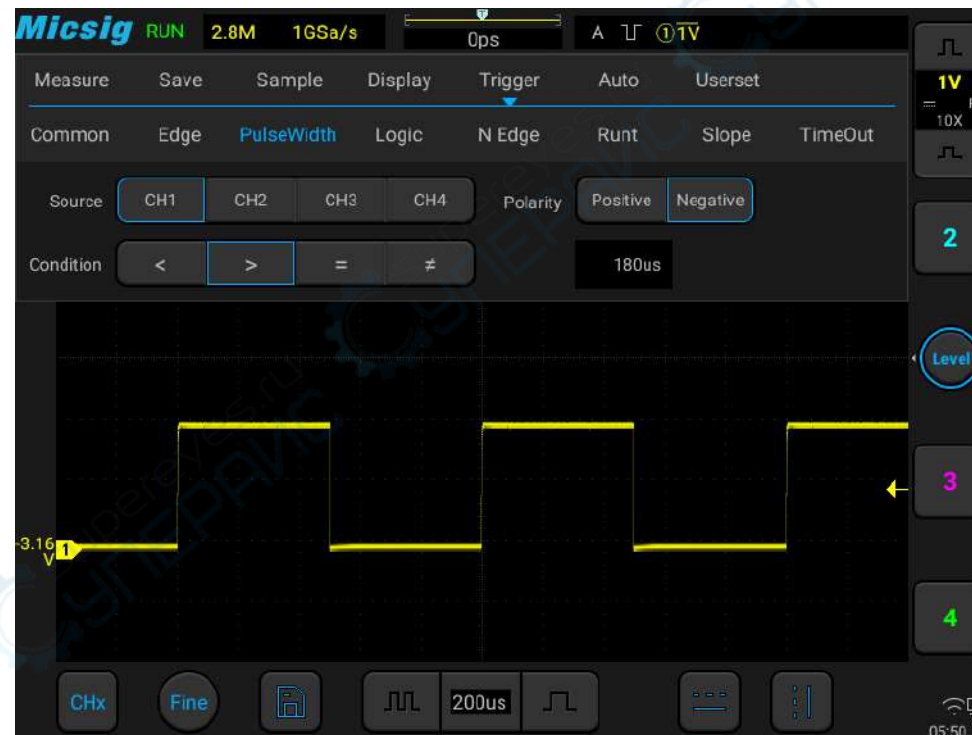

Figure 6-15 Negative Polarity Pulse Level Flip
lower than current trigger level (CH1 negative pulse indication icon $\square \downarrow$ ① 1.00V). When triggered on positive polarity pulse, if the restrictions are true, the trigger will happen on the high-to-low transition of the pulse; when triggered on negative polarity pulse, if the restrictions are true, the trigger will happen on the low-to-high transition. (Figure 6-15 Negative Pulse Level Flip)